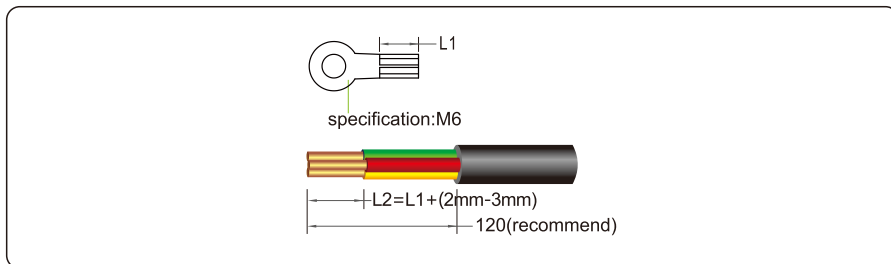

Figure 5.4 Stripped length
Step 1 Remove an appropriate length of the jacket and insulation layer from the AC output cable, as shown in Figure 5.4.